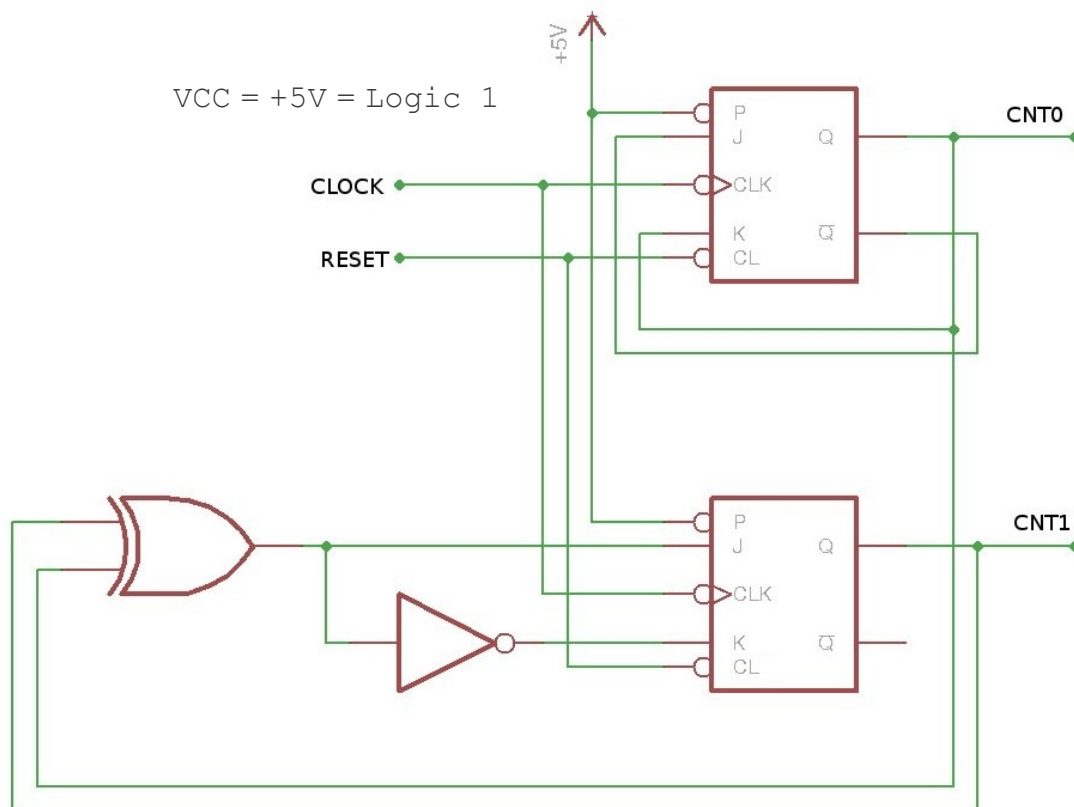
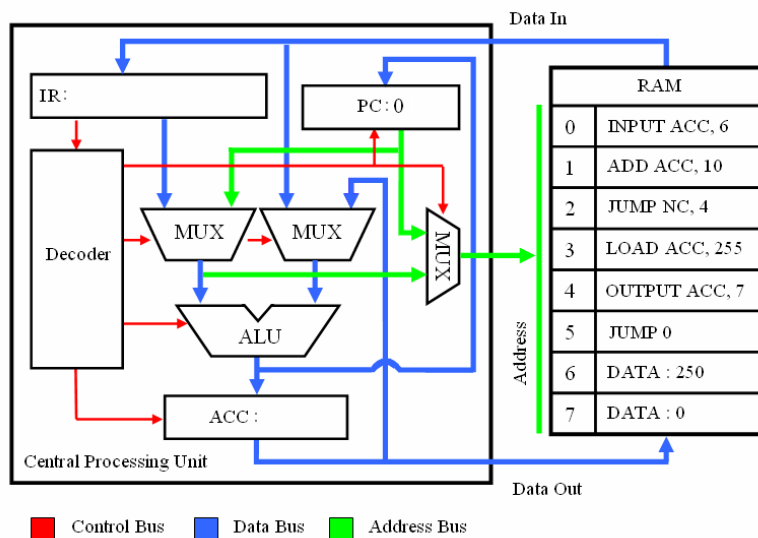

Figure 15 : 2 bit Counter
Figure 16 : A typical computer architecture
Using this XOR gate circuit, the J-K Flip-flop FF3 and NOT gate G19, construct the circuit shown in figure 15. Next connect the RESET input to S2 and the CLOCK input to the Q output of micro-switch S6. Finally connect the Q output of FF3 to LED LP2.
Data processing : the simple incrementer circuit shown in figure 11 can be expanded to implement hardware capable of performing addition, subtraction, multiplication and division functions. These functions are normally grouped together within a computer's arithmetic and logic unit (ALU), as shown in figure 16. As computers become more specialised increasingly complex hardware modules are being developed to increase processing performance, however, these are still built upon basic logic gates i.e. AND, OR and NOT gates.
Memory : to perform arithmetic operations a computer must also contain memory, storage locations for the data to be processed and any results produced. These are typically implemented using one or more registers, each storing multiple bits e.g. 8, 16, 32 bit etc. Each bit within a register is stored in a flip-flop e.g. if we have a 8 bit register there will be 8 flip-flops. Registers are classified as special or general purpose. Special purpose registers contain specific information the computer requires to function. These are not generally accessible to the programmer e.g. the instruction register (IR), stores the current instruction being processed, or the program counter (PC), address of the instruction to be executed. General purpose registers contain operands and results processed / produced by the ALU. A computer may have one or more general purpose registers, if it has only one this register is typical called the Accumulator (ACC), as shown in figure 16.
Control : a computer must generate a sequence of control signals (bits), instructing each functional block e.g. multiplexer (MUX), ALU, or register, within the computer, controlling what it should do and when it should do it. The 2 bit counter shown in figure 15 is an example of a simple state machine. This functionality can be expanded to control any number of bits, generating any sequence of control signals i.e. a micro-sequencer. This is represented in figure 16 as the decoder block, generating the step-by-step sequence of events (control signals) within the computer to process each instruction.